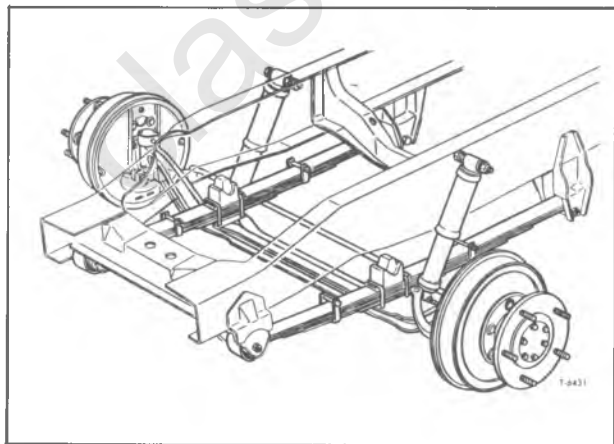
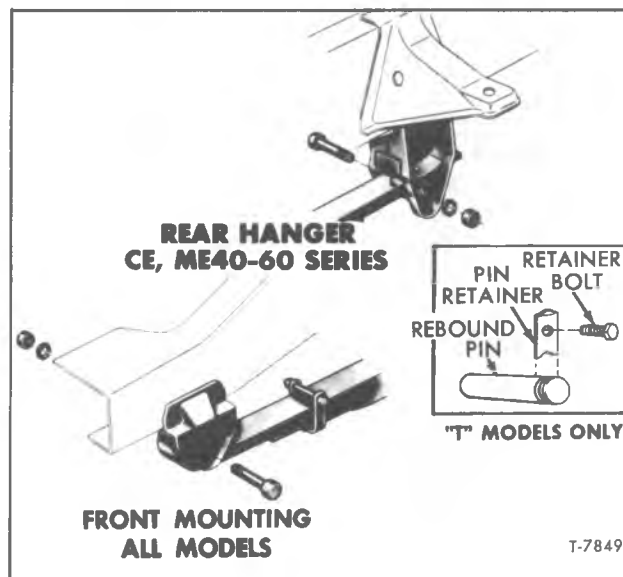
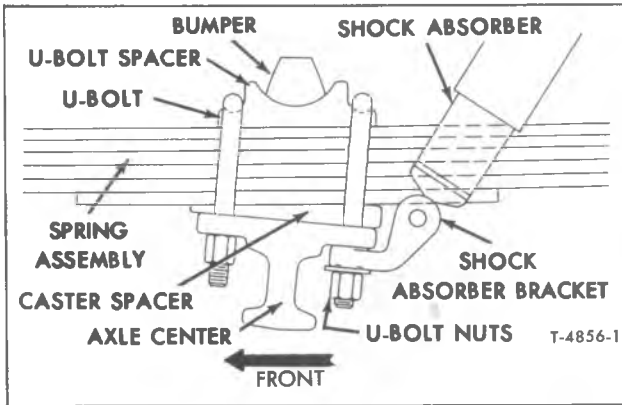

Figure 1—Beam Suspension
Figure 2—Spring Mounting (Typical)
Figure 3—Front Spring Center Mounting (Tilt Model)
Suspension and front springs on all models are I-beam type as shown in figure 1. Springs are variable leaf type and bushed at front end only. These springs are mounted to rigid hangers (fig. 2), and attached to front axle with U-bolts as shown in figures 3 and 4. U-bolts also secure shock absorber brackets.
6. Remove shock absorber bracket (if used) (figs 3 and 4), U-bolt spacer and U-bolts, spring caster spacer, tow eye (if used) and dowel pins (when used). Also, front spring rear hanger cushion (when used). Remove spring.
NOTE: Refer to figures 3 and 4 for correct position of caster spacer at time of installation.